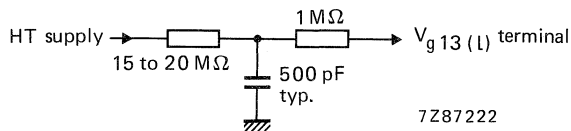

Fig. 7.
1. These values are valid at cut-off of both flood guns and the writing gun. The H.T. unit must be capable of supplying 0,5 mA. To protect the tube against excessive surge current during erasure, an RC-network as shown in Fig. 7 must be connected in series with the screen terminal lead; the resistance of 15 to 20  $M\Omega$  includes the internal resistance of the H.T. supply.